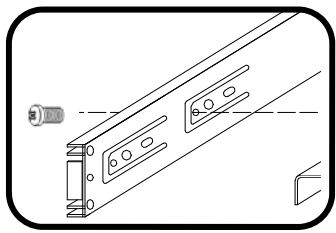

Fig 2.
Repeat the process with the remaining slide (C) and angle plate (B) referring to Fig 2.